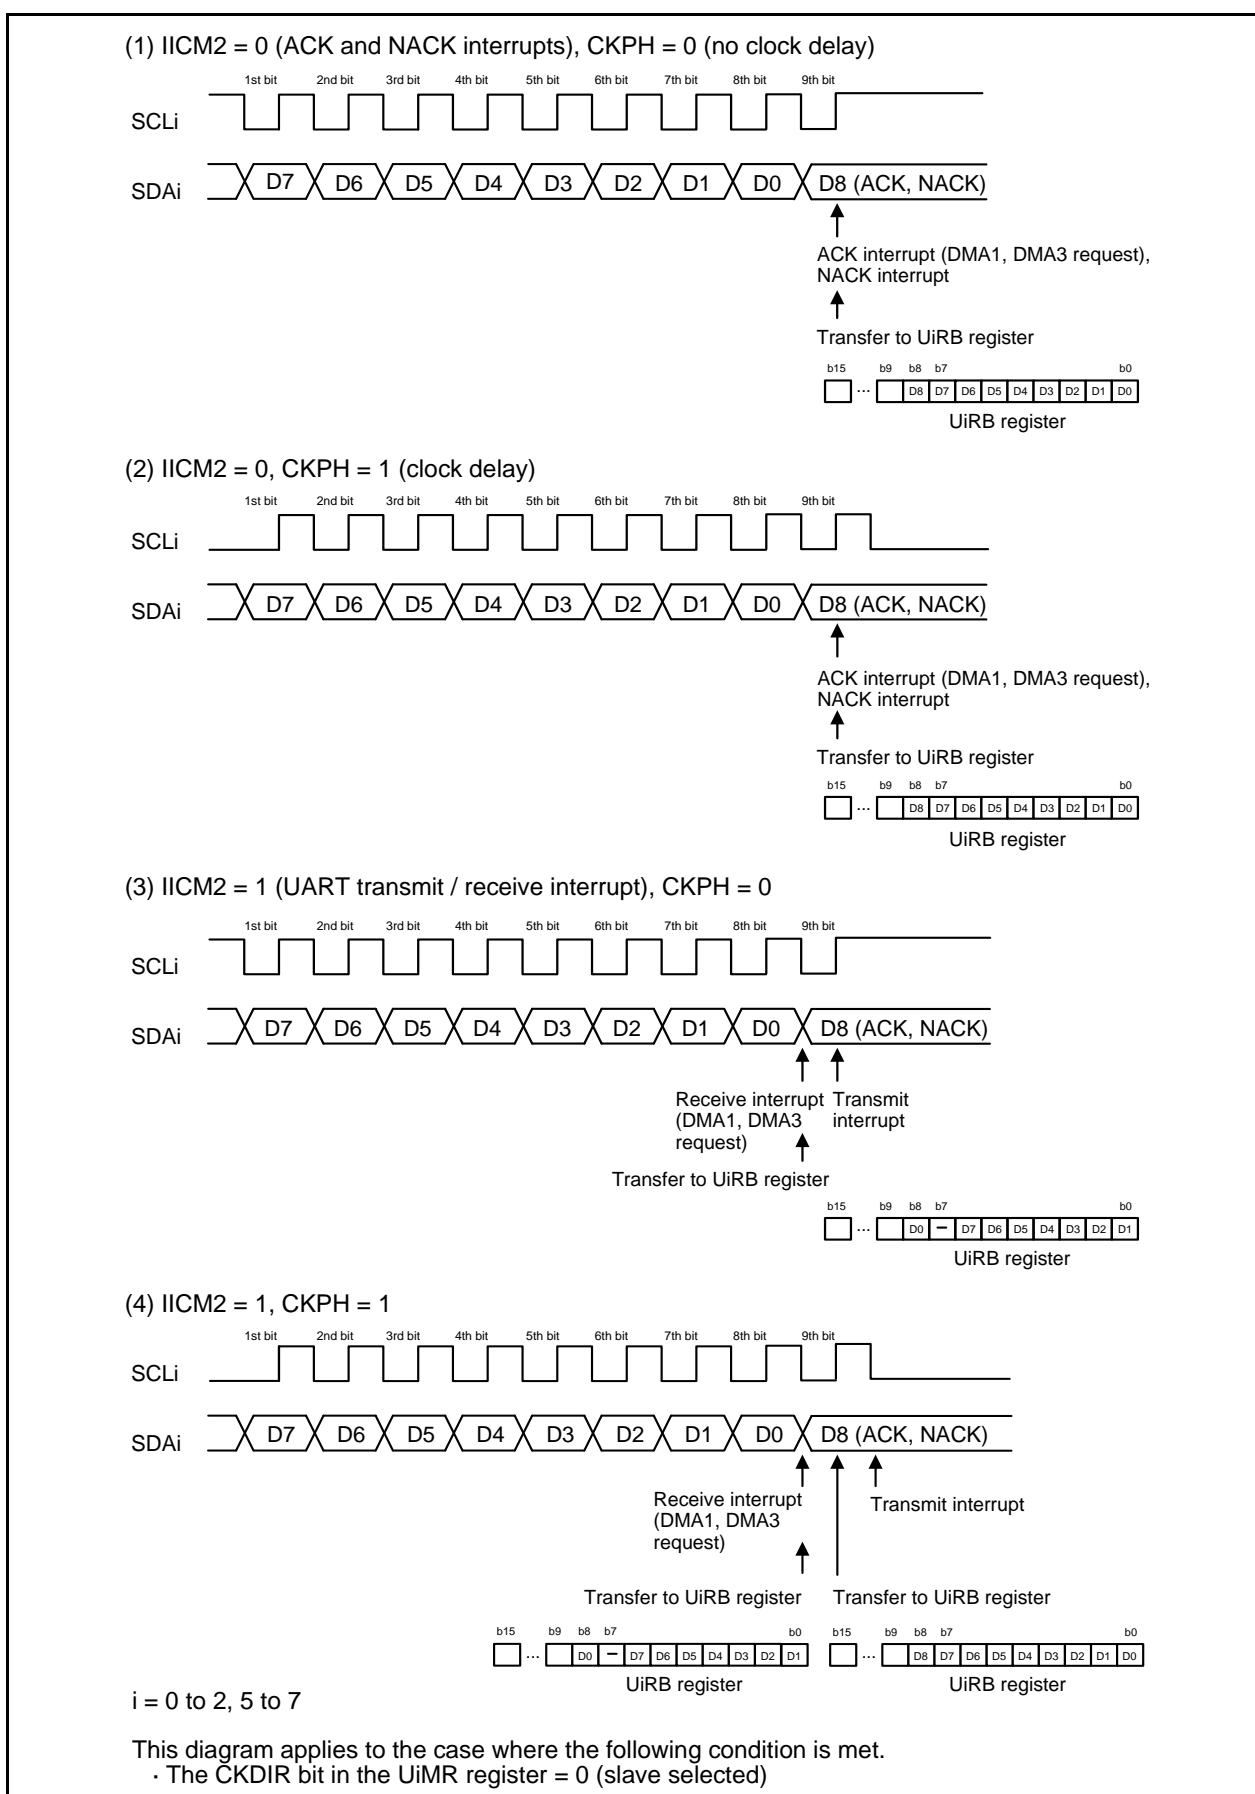

Figure 17.25 Transfer to UiRB Register and Interrupt Timing
6. See Figure 17.25 "Transfer to UiRB Register and Interrupt Timing".
The transfer clock is used to transmit and receive data as is shown in Figure 17.25 Transfer to UiRB Register and Interrupt Timing.